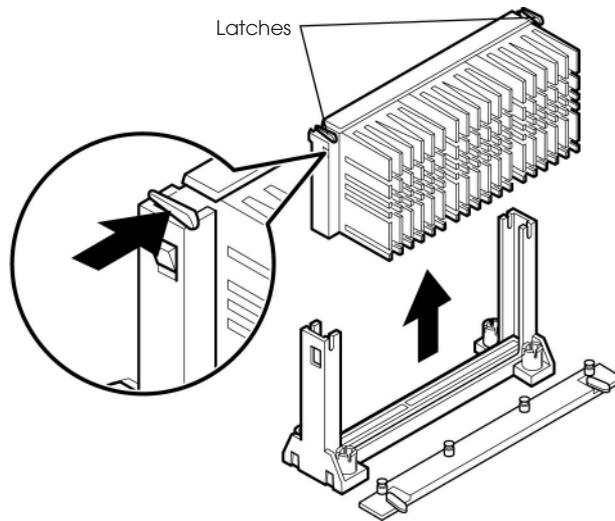

Figure 15. Removing the processor
- 7** Remove the processor by pressing in on the latches and pulling the processor straight up as shown in Figure 15. Place the processor aside.